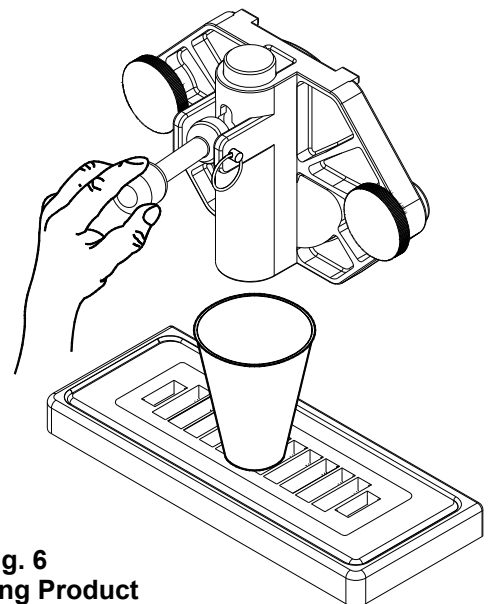

Fig. 6
2. Set the control switch to the “**CLEANOUT**” position and dispense all product from the freezing cylinder by pulling downward on the spigot handle (Fig. 6) to empty the machine.